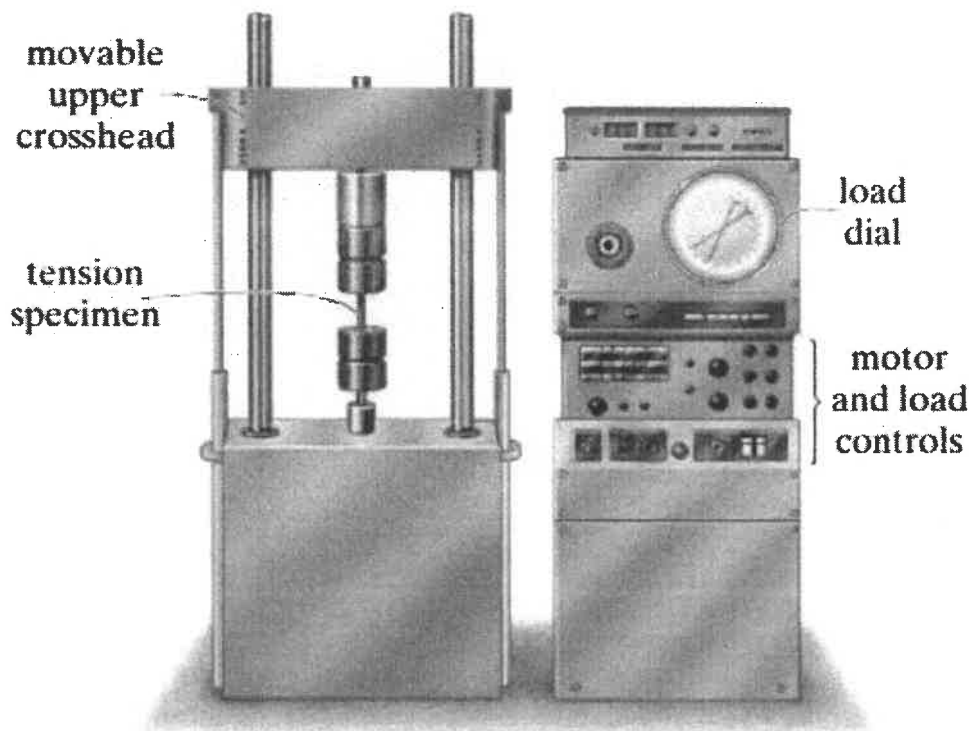

Figure 12: Universal Testing Machine (UTM)
*Refer Below - Figure12 : Universal Testing Machine (UTM) .*